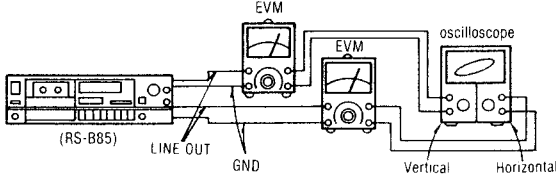

Fig. 7
4. Make connections as shown in fig. 7.